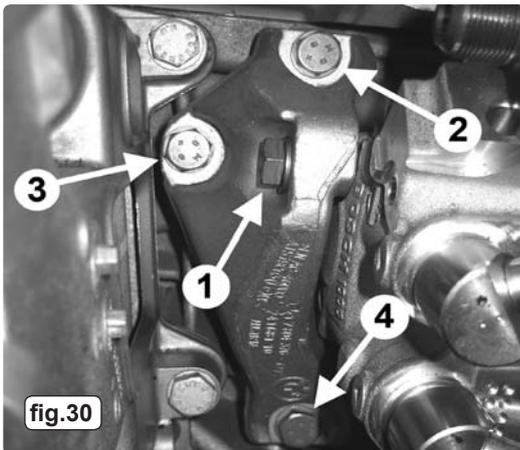

fig.30
3.4.3. **NOTE:** When reinstalling the support bracket for the high pressure pump, the securing screws should be fitted in a specific sequence (see fig.30).